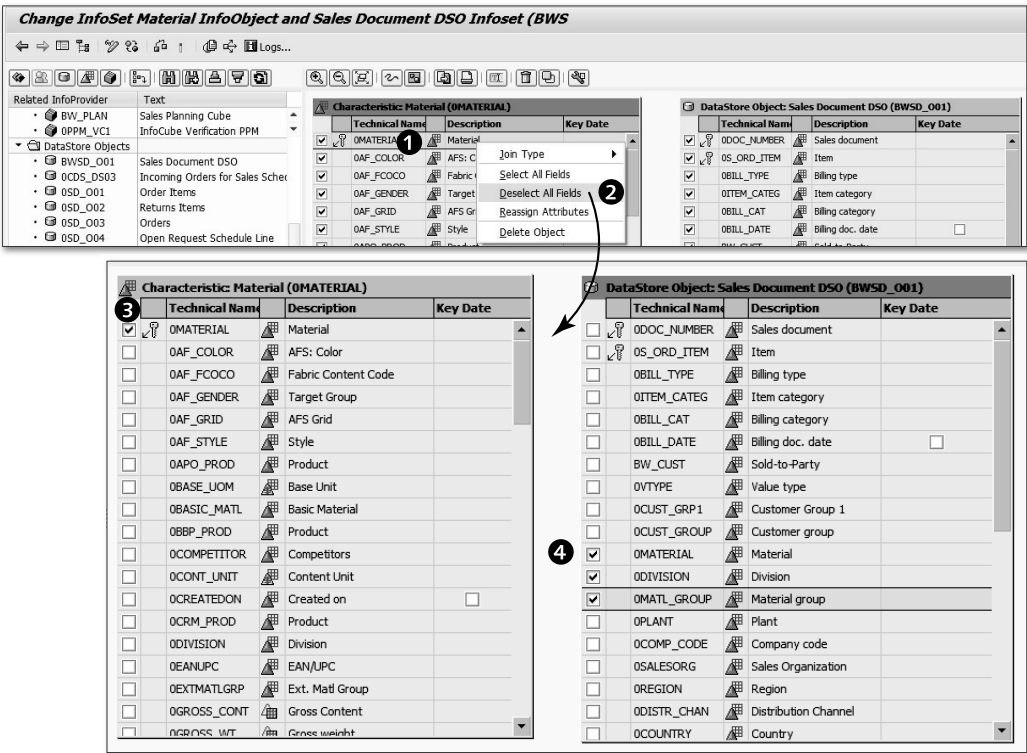

Figure 6.24 Selecting Required Fields
anywhere on the source object for which you want to deselect all of the fields. For example, we want to deselect all of the fields for the OMATERIAL source object. Open the context menu by right-clicking somewhere near the spot shown in ❶ of Figure 6.24, and then select Deselect All Fields ❷. You can perform similar steps on the BWSD_O01 source object and deselect all of the fields of DSO BWSD_O01.